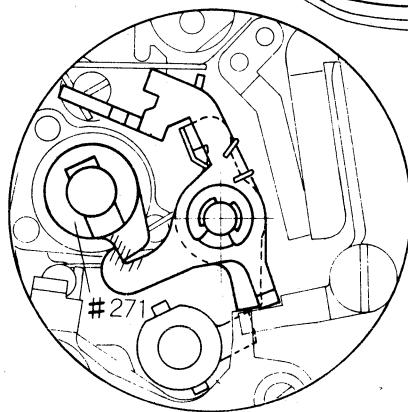

fig. 5-2 Body, wind-side, top
- 2) Install #271 in place as shown in fig. 5-2. Use Tool J14017.